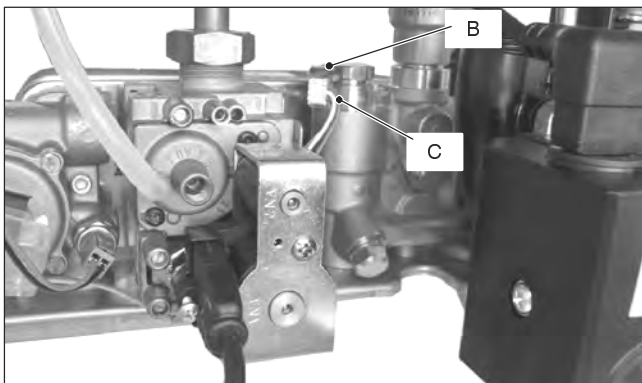

Fig. 14.2
- 2 Switch on the boiler and open a d.h.w. tap. The lamp *B* (Fig. 14.2) placed on the sensor body is switched on when the flow rate reaches about 2,5 litres/min'.
- 2 Disconnect the connector *C* (Fig. 14.2) and remove the sensor by delicately levering downwards with a screwdriver.